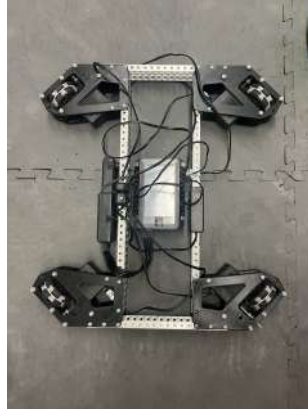

Figure 15: Mop view of chassis
- As shown in figure 15, the **brain is mounted between the two cross braces** on a custom 3D printed bracket.